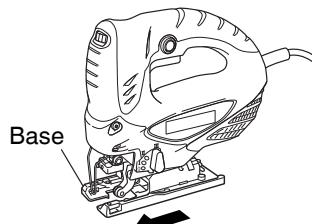

Fig. 9
- (2) Move the base fully forward (Fig. 9), and tighten the base bolt again.
- (3) Tighten the M5 bolt again. (Fig. 9)
- (4) Set the orbital position to "0".
- (1) Remove the allen wrench from the base.
- (2) Move the base fully forward. (Fig. 9, 10)